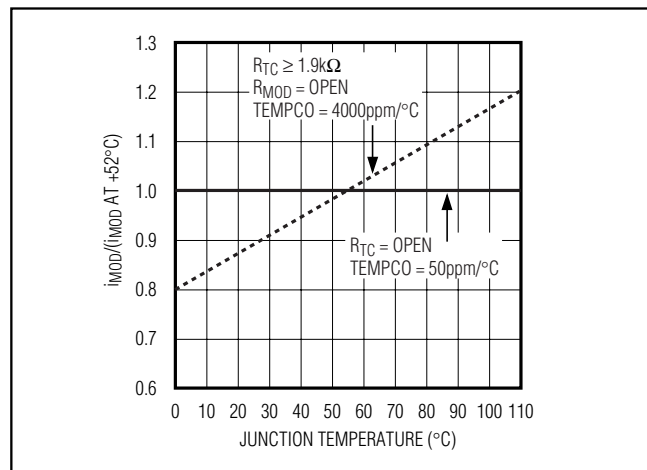

Figure 6. Modulation Current vs. Temperature for Maximum and Minimum Temperature Coefficient
The amplitude of the modulation current is set with resistors at the MODSET and temperature coefficient (TC) pins. The resistor at MODSET ( $R_{MOD}$ ) programs the temperature-stable portion of the modulation current, and the resistor at TC ( $R_{TC}$ ) programs the temperature-increasing portion of the modulation current. Figure 6 shows modulation current as a function of temperature for two extremes:  $R_{TC}$  is open (the modulation current has zero temperature coefficient), and  $R_{MOD}$  is open (the modulation temperature coefficient is  $4000ppm/^{\circ}C$ ). Intermediate temperature coefficient values of the modulation current can be obtained as described in the *Design Procedure* section. Table 2 is the  $R_{TC}$  and  $R_{MOD}$  selection table.